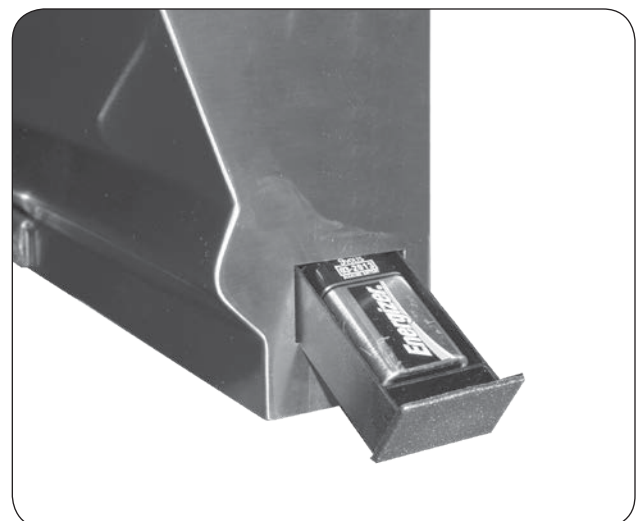

Fig. 29-3 Replace igniter battery
2. Disconnect the battery from the connector and replace it connecting the new battery and close the drawer (see Fig. 29-3).